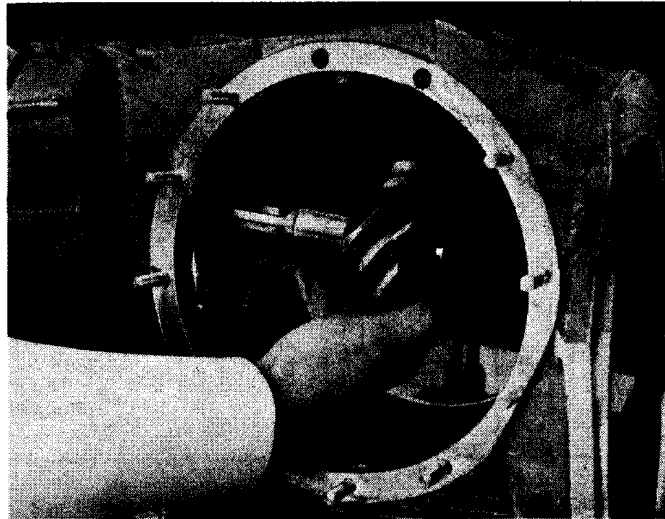

Fig. 2. Easing the pinion through the side plate aperture
4. Tilt pinion and withdraw it through the aperture (Fig. 2). Remove thrust washer.